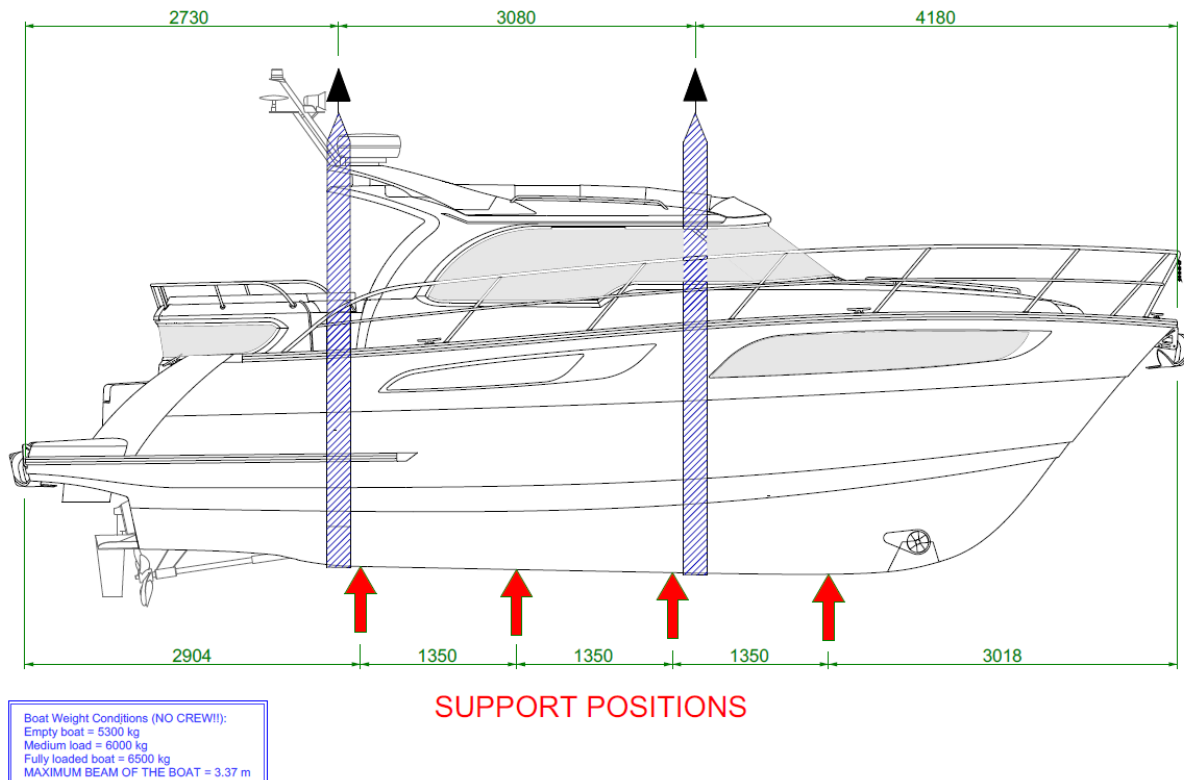

Figure 18: Place of the storage support
- ✓ Like shown on the figure 18.